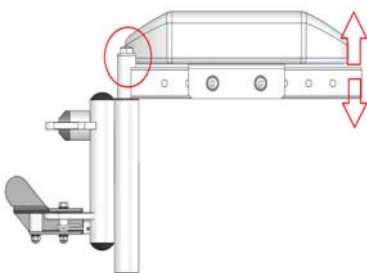

Figure 5-12
5.3.1.3.3 Use the #13 box end Wrench to loosen the bolt on the top of L-shape tube.(Figure 5-12) Adjust the footrest height and re-tighten the bolt.